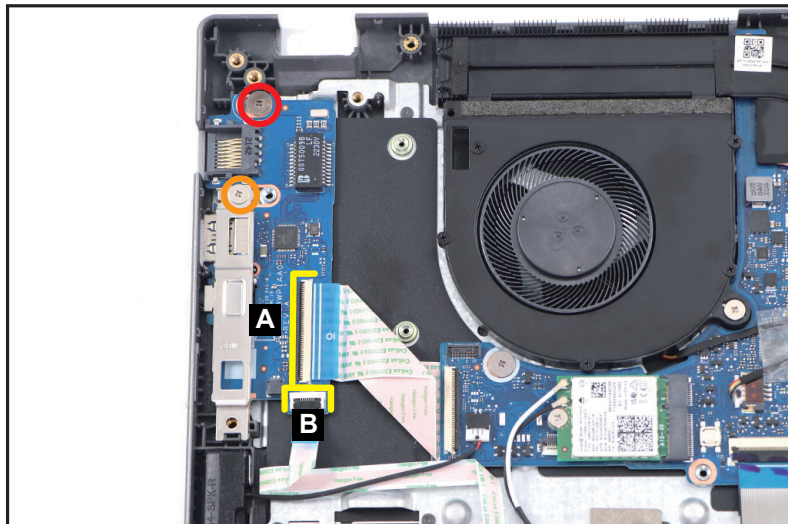

Figure 1-38. USB Board Removal
1. Remove one (1) screw from the USB board (Figure 1-38).
2. Remove one (1) screw from the USB bracket (Figure 1-38).
3. Disconnect the USB FFC from the USB board connector (A) (Figure 1-38).
4. Disconnect the fingerprint board FFC from the USB board connector (B) (Figure 1-38).